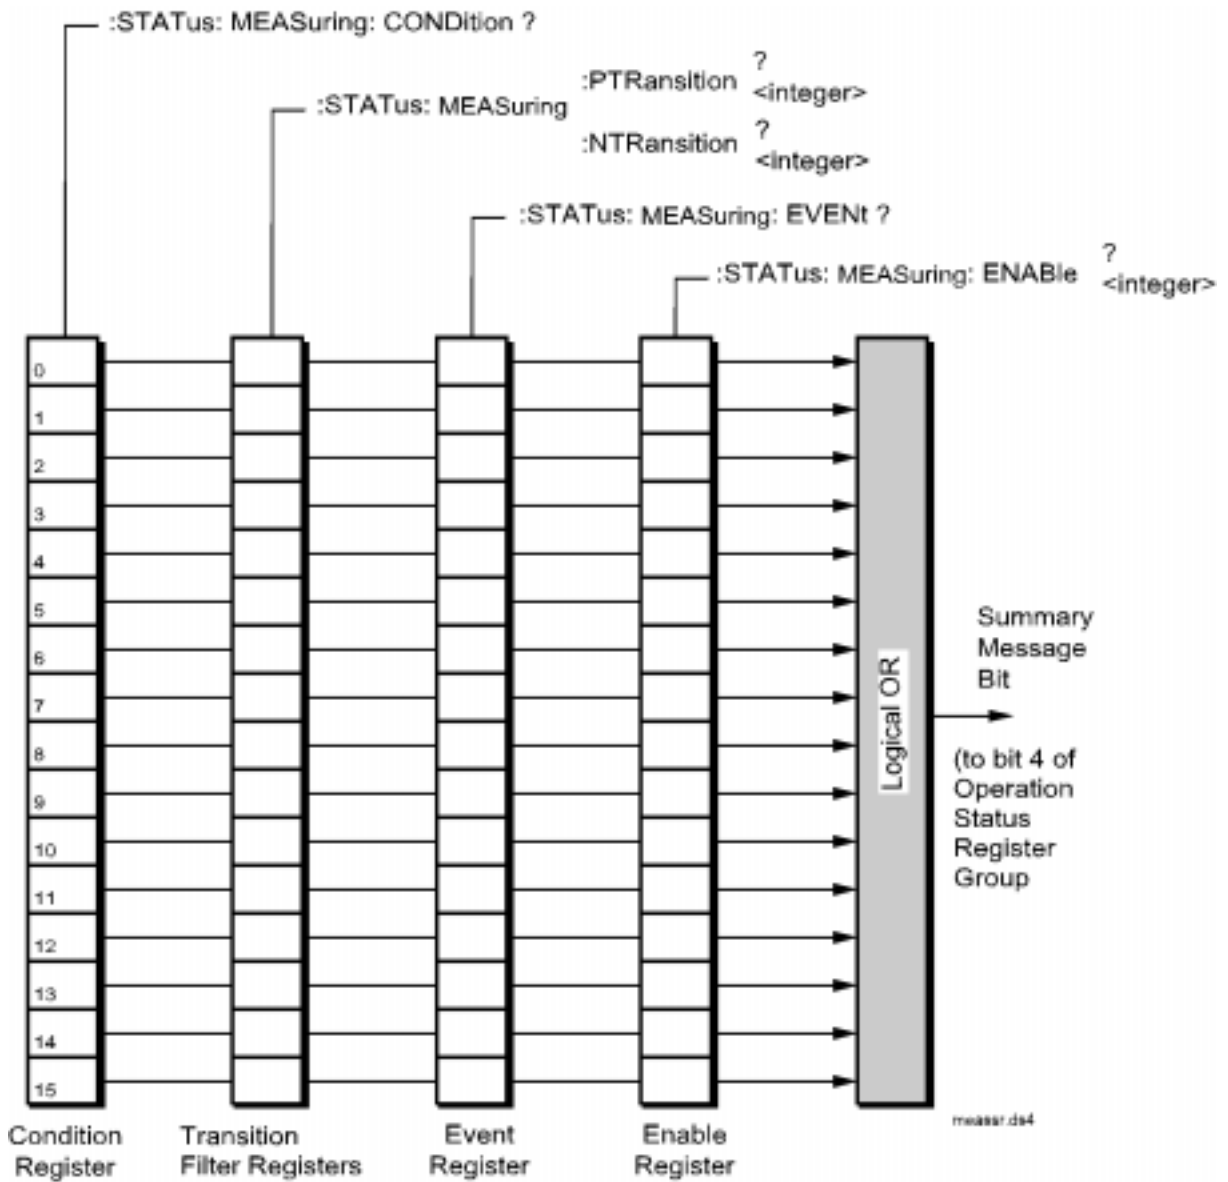

Figure 22 Measuring Status Register Group
**Figure 22** shows the structure and STATUS commands for the Measuring Status Register Group.